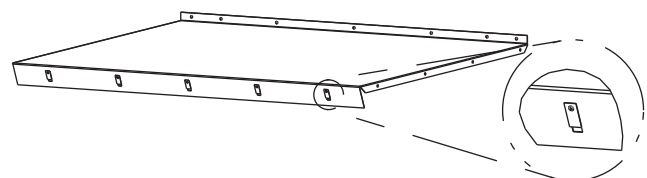

Fig. 31 — Top Hood with Speed Clips
4. Attach speed clips (provided) to hood top. Engagement section of the clip faces inside hood. See Fig. 31.